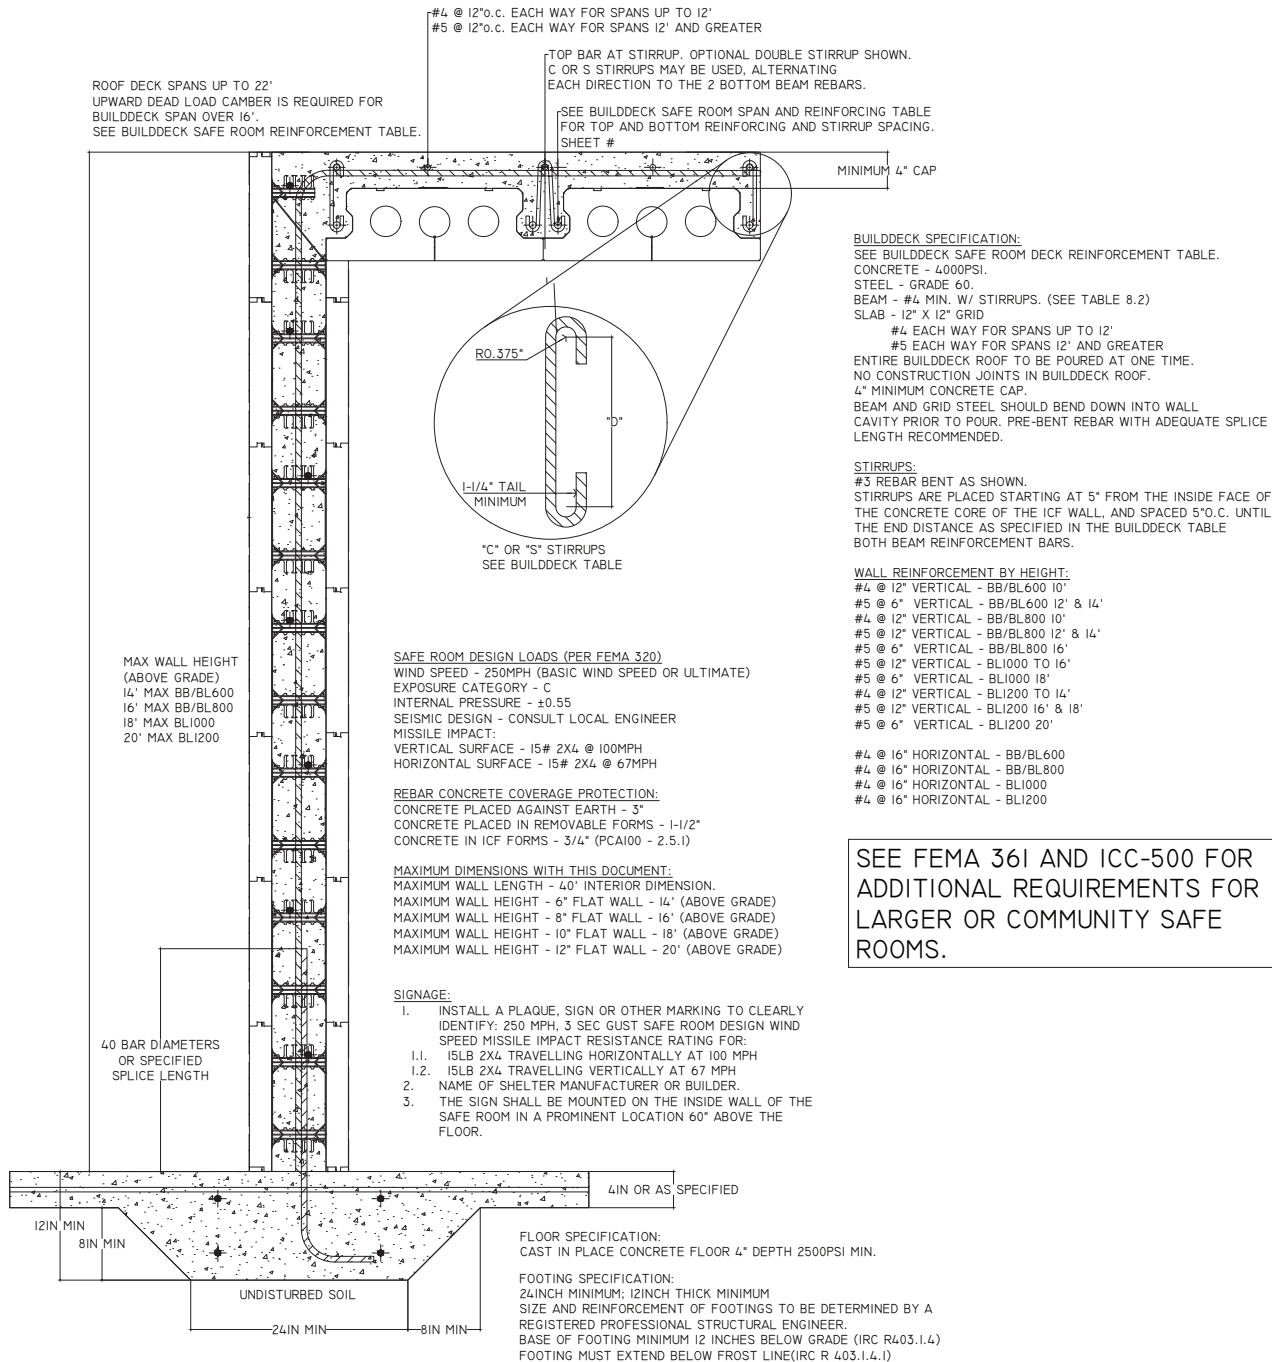

FIGURE 8.1 INTERIOR WALL (SLAB ON GRADE)
* Refer to Figures 8.1 - 8.4 for further details.